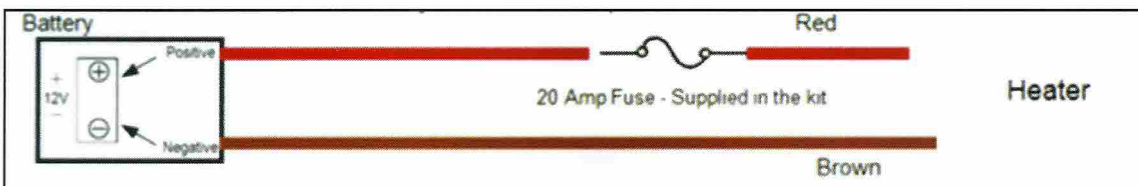

Fig 15 – Battery connection
1	BATTERY POSITIVE (RED) (Fig 15)
2	BATTERY NEGATIVE (BROWN) (Fig 15)
**Note:** Ensure that the red positive and brown negative is connected directly to the house battery for correct shut down cycle, using the fuse supplied in the kit. (Fig 15)